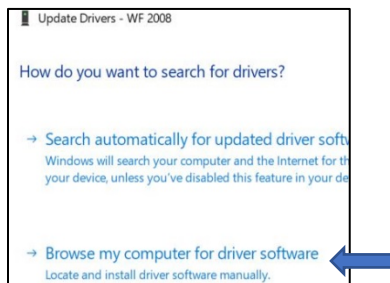

Fig 2-6
4. Select “Browse my computer...” (Fig 2-6)